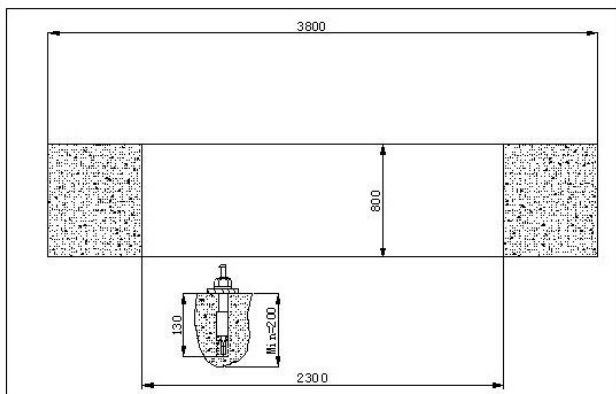

Fig. 29
- ◆ Install the screw according to **Fig. 29**.